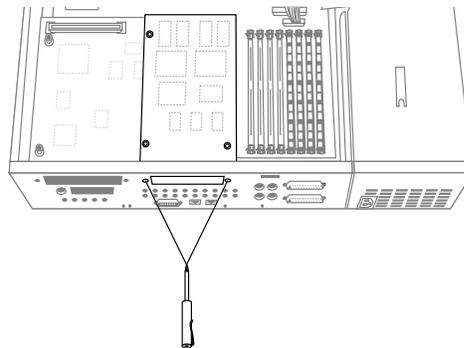

Figure 1-6 Removing the Screws From the Rear of the Workstation
3. Using the Phillips screwdriver provided with this upgrade kit, remove the two screws from the GIO board connector on the rear of the workstation, as shown in Figure 1-6.